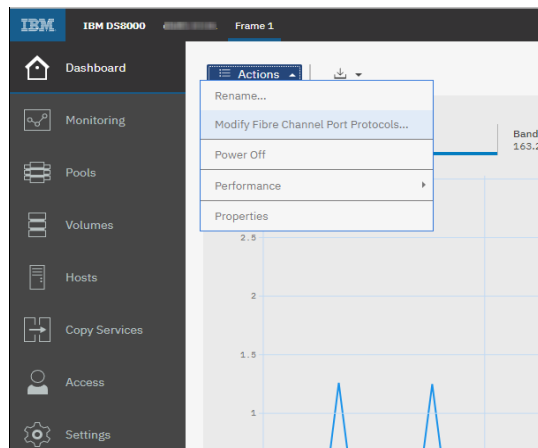

Figure 9-8 Quick way to modify the fiber adapter port protocols
- A quick way to perform this action is by clicking **Actions** on the Dashboard window and selecting **Modify Fibre Channel Port Protocols**, as shown in Figure 9-8.